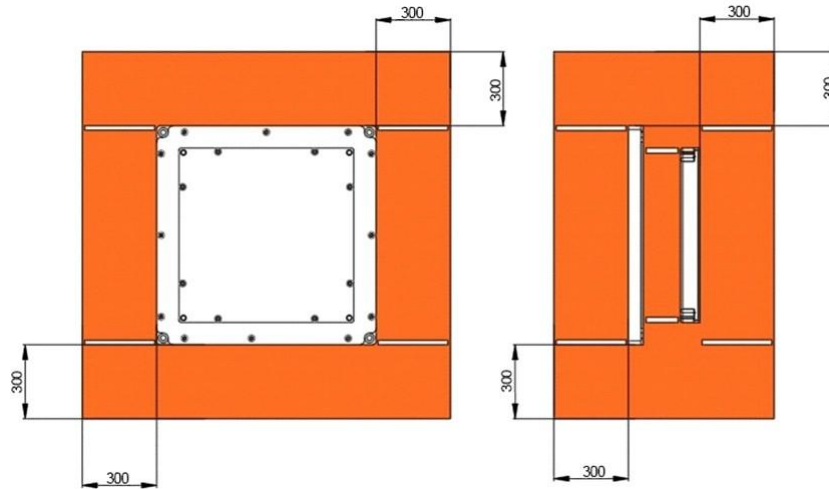

Fig 10 – Hazardous zone (orange zone) , side and front view (all measurements in mm)
- Persons with a cardiac pacemaker or metal implants may not enter the danger zone (see Figure 10).